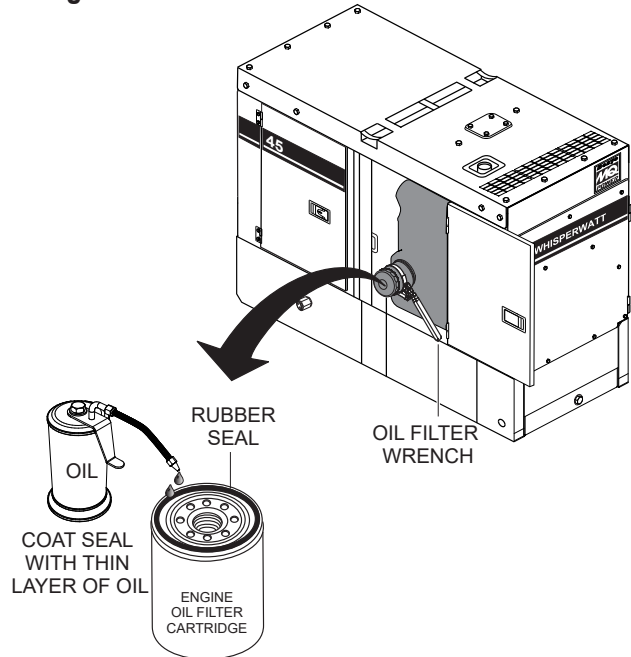

**Figure 70. Draining The Engine Oil**
4. Remove the **oil drain cap** (Figure 70).
5. Place the **oil drain valve** in the **OPEN** position (Figure 70) and allow the oil to drain into a suitable container.